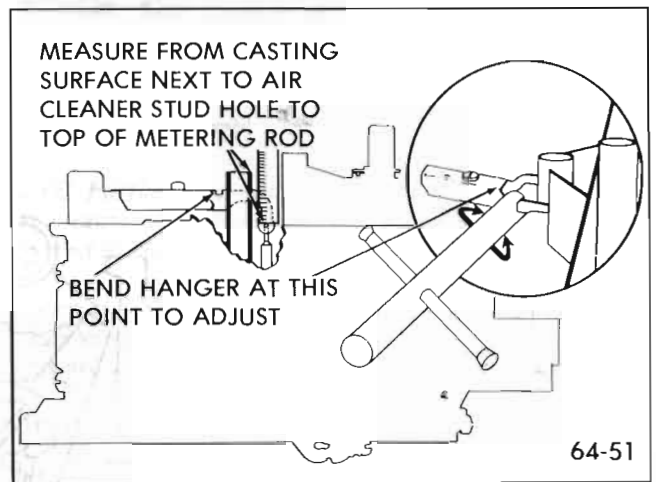

Figure 64-51 - Secondary Metering Rod Adjustment
1. Check secondary metering rod adjustment by measuring from top of each metering rod to top of air horn casting next to air cleaner stud hole. Measurement should be 53/64 in. See Figure 64-51.
2. Adjust, if necessary, by bending metering rod hanger at point shown in Figure 64-51. Make sure *both* rods are correctly adjusted.